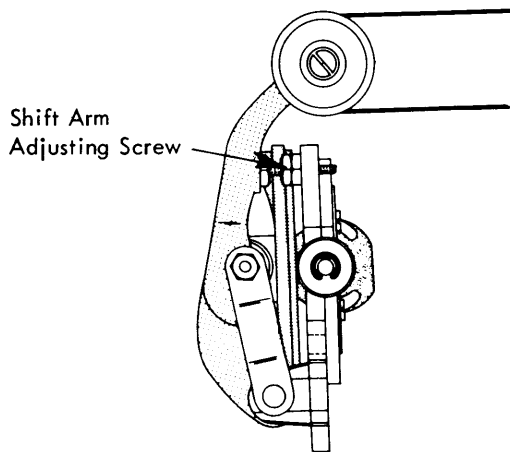

FIGURE 69. *Shift Motion Adjustment*
14. Shift Motion - The shift arm adjusting screw (Fig. 69) should be adjusted in or out to obtain 180° rotation of the typehead during a shift operation.